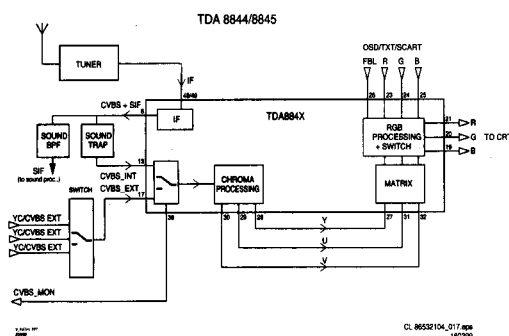

Figure 9-15 "Videopath"
In Figure 9.15 a simplified block diagram of the video path is shown. The main item in the block diagram shown in Fig.9.14 is the video processor item 7250. The IC performs the following functions, video IF demodulation, chroma processing and RGB processing. Additionally synchronisation processing, mono IF audio demodulation and audio selection takes place.